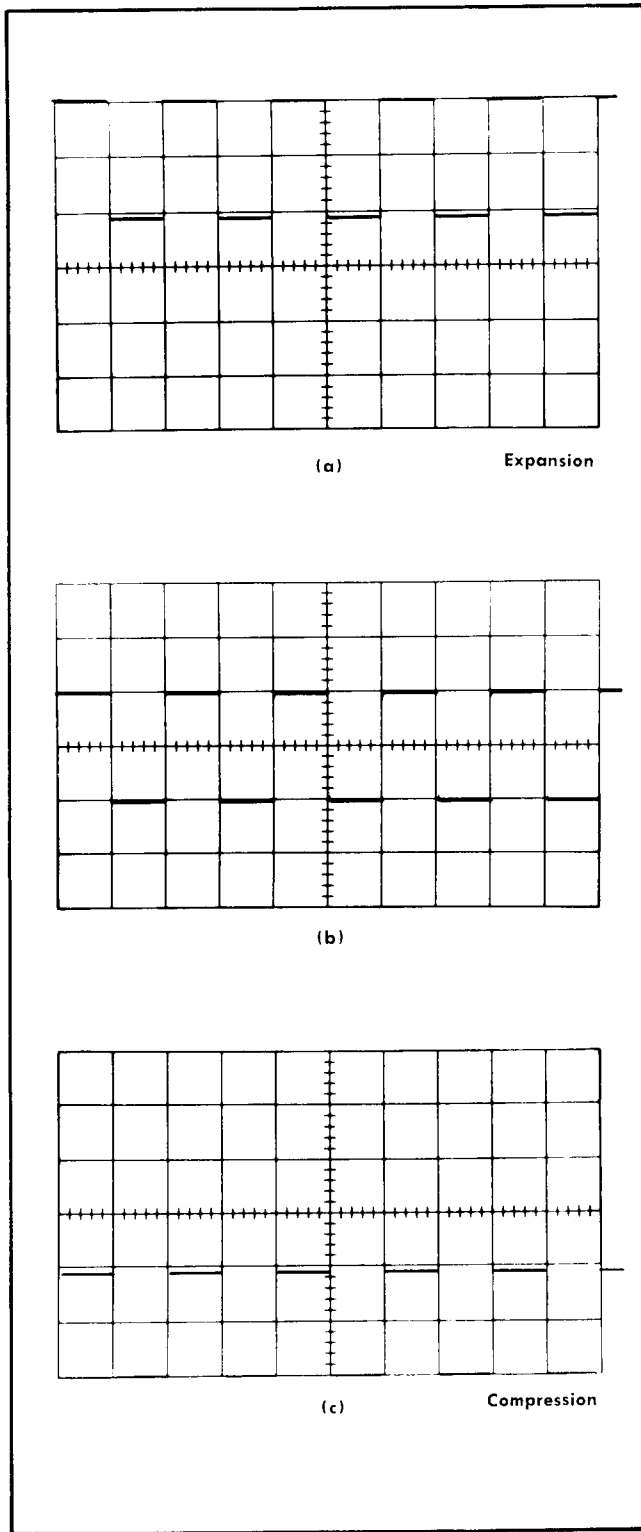

Fig. 6-23. Typical crt display showing acceptable compression and expansion. Waveform (a) shows expansion; waveform (c) shows compression.
- f. Check—Compression or expansion should not exceed 0.15 division (see Fig. 6-23).
- h. Check—Compression or expansion should not exceed 0.15 division (see Fig. 6-23).
- m. Check—Compression or expansion should not exceed 0.15 division (see Fig. 6-23).
- o. Check—Compression or expansion should not exceed 0.15 division (see Fig. 6-23).